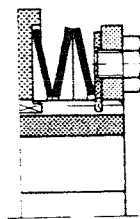

Fig. 7
You can find the correct disc spring configuration (9) under the heading "disc spring layer configuration" and from figure 7.